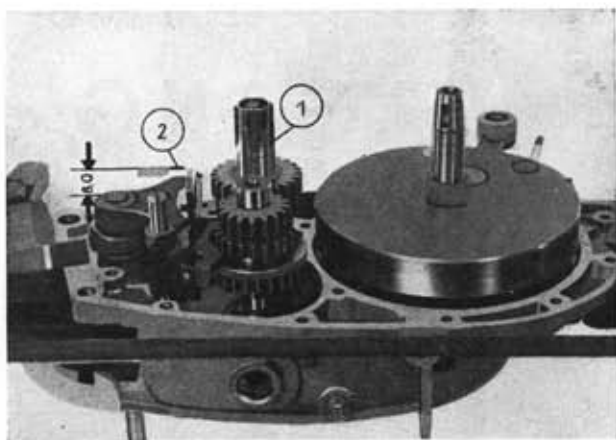

Fig. 38
The clutch shaft must move with ease. If this is not the case, use a mallet of plastics and beat the shaft (1) 0.2 mm towards the front and, using a copper mandrel (through the shaft wheel), beat it back. Then the end clearance between end face of the splined section of the clutch shaft and the shaft wheel must be given as shown in Fig. 38.
If the green indicating light fails to flash up (with the engine installed), loosen the terminal of the supply cable and connect the cable from the indicating light to the frame. If the green lamp fails to light, either the supply cable of the bulb is defective. If it lights up, the fault is in the contact switch: the contact plate distance is smaller than specified (Fig. 38).